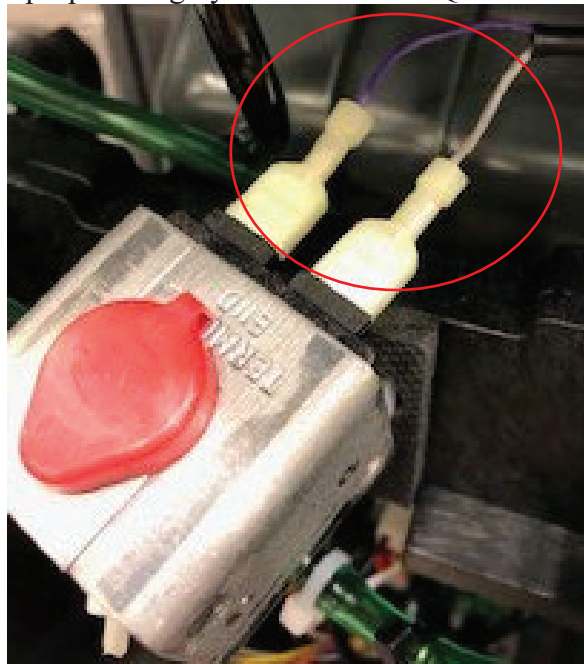

Figure 16. Purple and grey wires connected to the EQ valve.
18. Plug the purple and grey wires into the EQ valve. See **Figure 16**